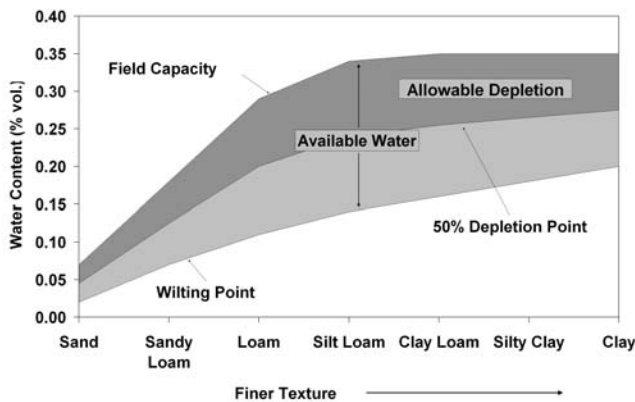

Figure 2. The amount of allowable depletion, or the readily available water, represents about 50 percent of the total available water.
50% of the total available water in the soil. (Figure 2.)
- Crop coefficient is 0.95 (Figure 2).